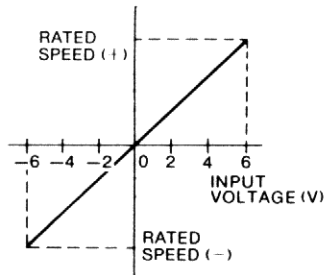
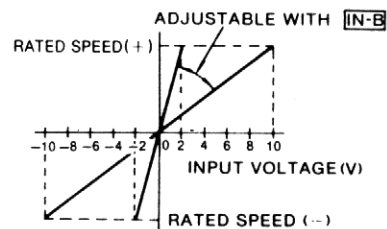

Fig. 4.7 Speed-Input Voltage Characteristics
Fig. 4.8 Speed-Input Voltage Characteristics when Auxiliary Input Terminals 1CN-⑭ and ⑮ are used.
Fig. 4.7 shows motor speed and input voltage curve when speed reference input terminals 1CN-⑫ and ⑬ are used. With auxiliary input terminals, 1CN-⑭ and ⑮, motor speed can be set to the rating by adjusting IN-B potentiometer as long as input voltage is within $\pm 2\text{V}$ to $\pm 10\text{V}$. See Fig. 4.8.